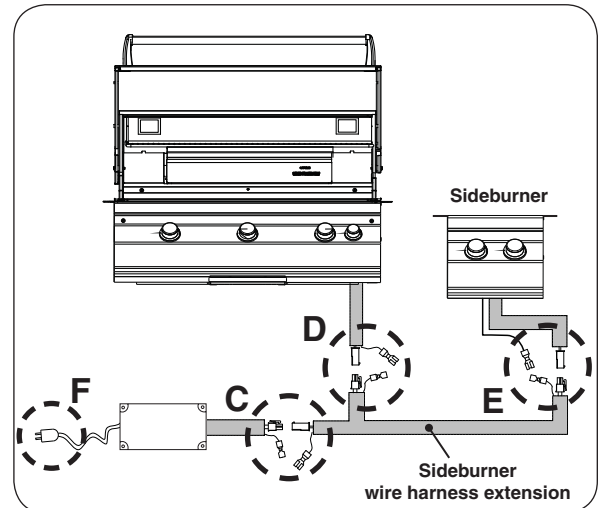

Fig. 13-3 Connect sideburner to grill setup
3. Locate the end of the sideburner wire extension that has two molex and ground connections. Connect the extension (plug) molex connection to the power supply (receptacle) molex connection and ground wires (See Fig. 13-3, **C**).
4. Connect the extension (receptacle) molex to the grill (plug) molex connection and ground wires (See Fig. 13-3, **D**).
5. Connect the opposite end of the extension to the sideburner as shown in Fig. 13-3, **E** (molex and ground wire connections).
6. Reconnect the power cord (see Fig. 13-3, **F**).